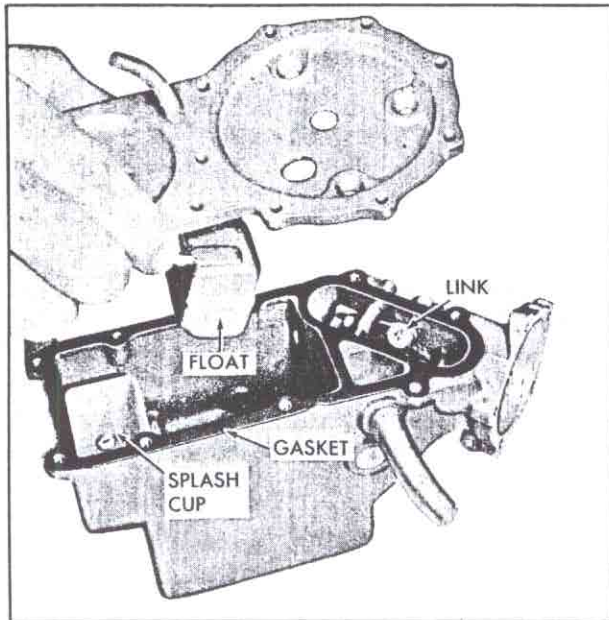
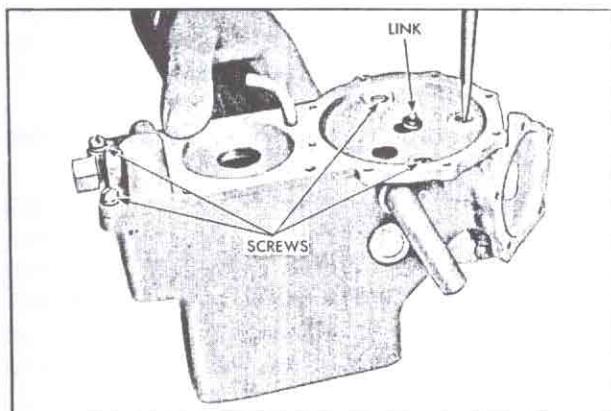

Fig. 148—Installing Fuel Meter Cover
Fig. 149—Fuel Meter Cover Attachment
7. Position nylon splash cup (fig. 148) in fuel bowl and secure with attaching screw.
8. Position a new fuel meter cover gasket (fig. 148) on the fuel meter, then carefully lower the fuel meter cover assembly onto the fuel meter being careful not to bend the float and being sure that the fuel control link is through the hold at the center of the main control diaphragm location (fig. 149). Carefully align attaching screw holes in cover, gasket, and fuel meter. Then install three self-locking screws at the main control diaphragm location and two screws at the fuel inlet end of the assembly.